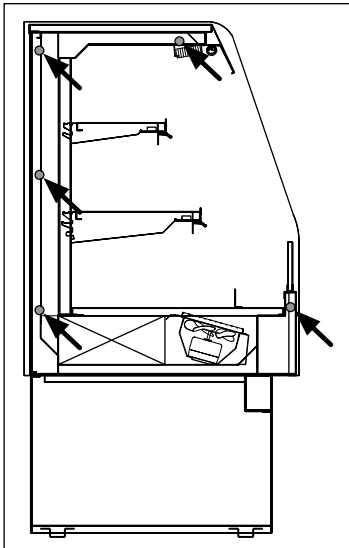

Fig. 6 Bolt locations CF-SC (R-290)
4. Push the cases tightly together, then lightly bolt them together through the holes provided (Fig. 6 & 7). Tighten all the joining bolts until all margins are equal. Be careful not to over tighten.